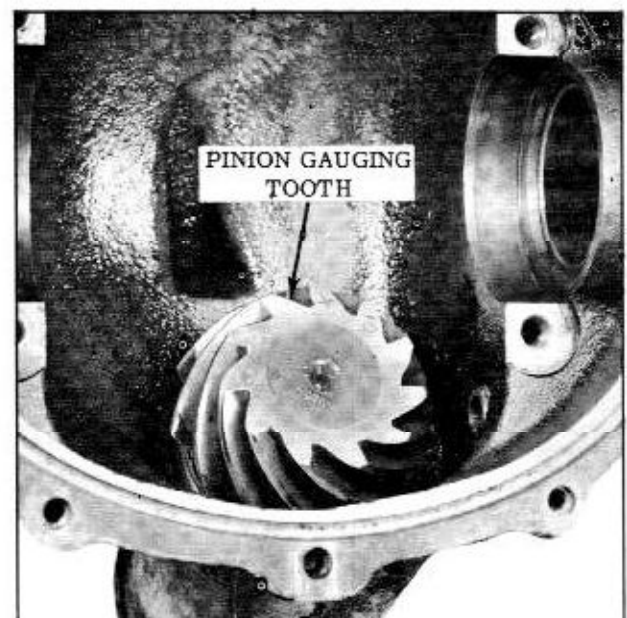

Figure 6-20 Pinion Gauging Tooth
3. Position pinion until gauging tooth is in position shown in Fig. 6-20.